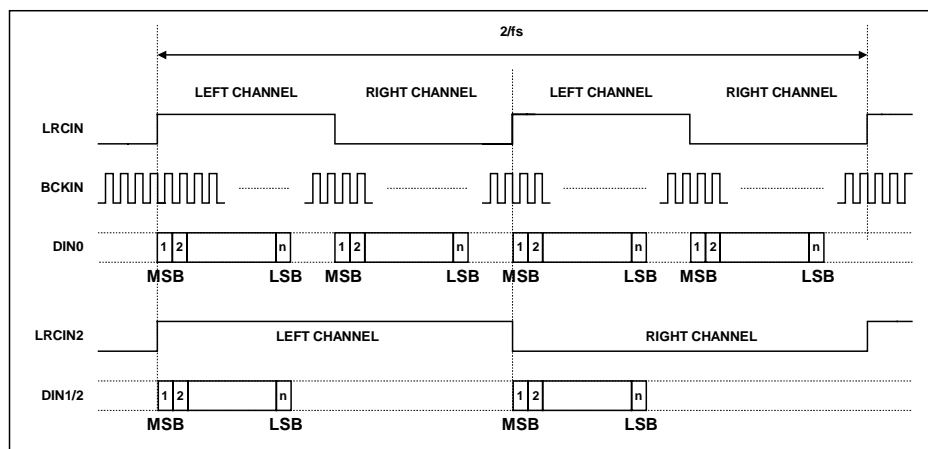

Figure 9 Split Rate Audio Mode Timing Diagram
When running in split rate mode all the channels are clocked in using a common BCKIN; the front channels using LRCIN and all the other channels using LRCIN2 see Figure 9.
- Figure 9 shows the timing for left justified however this is similar for right justified and i^2s .